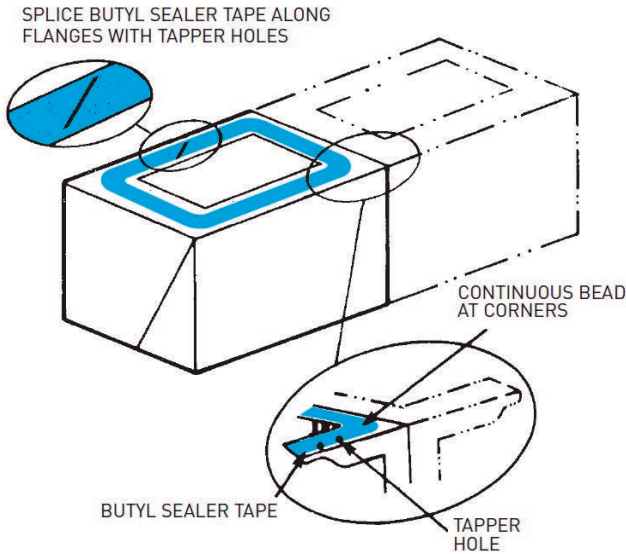

Figure 2
- Apply the 1" flat tape sealer around the periphery of the top flange of the basin-fan section as shown below in Diagrams G, H or I- (See Figure 2). This tape sealer must be centered directly over the centerline of the taper holes and on the centerline of the end flanges where there are no taper holes.